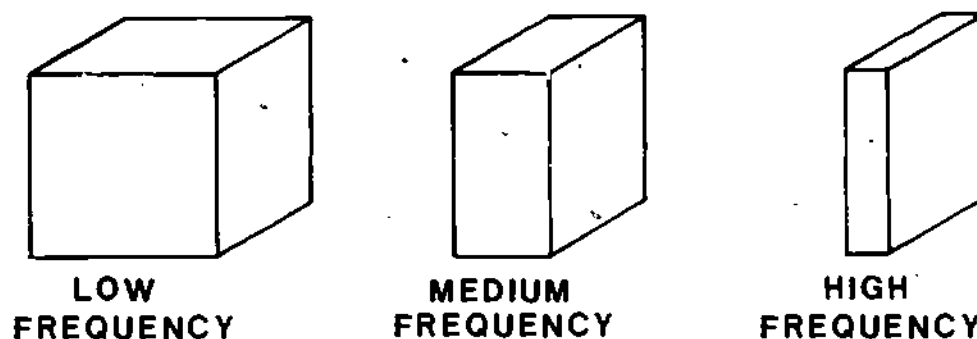

Figure 2
3. As a voltage variation is applied to a crystal, it will vibrate at its natural resonant frequency. Generally, the natural resonant frequency is dependent on the crystal's thickness, as shown in Figure 2.